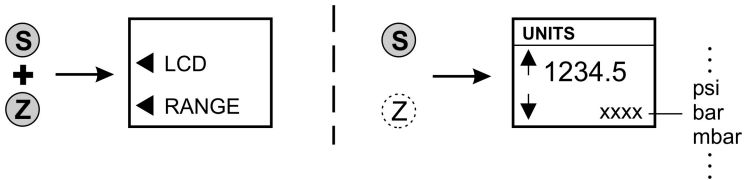

Figure 4-5: Selection sequence - LCD configuration
4.4 Manual Configuration - LCD (Figure 4-5)